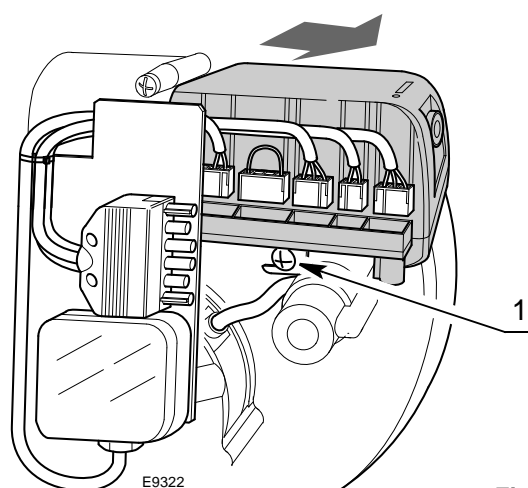

Fig. 14
- disconnect all the connectors connected to it, the 6-pin plug, the high voltage cables, and the earth wire (TB);
- loosen the screw 1)(Fig. 14) and pull the control box in the direction of the arrow.
- tighten screw 1)(Fig. 14) with a tightening torque of $1 \div 1.2 \text{ Nm}$;